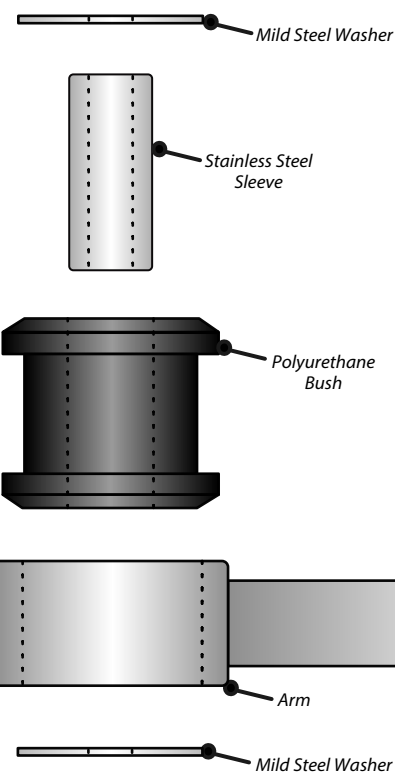

Figure 1
3. Press the polyurethane bush in to the arm as shown in figure 1.
5. Fit the supplied washers on either side of the bush as shown in figure 1.